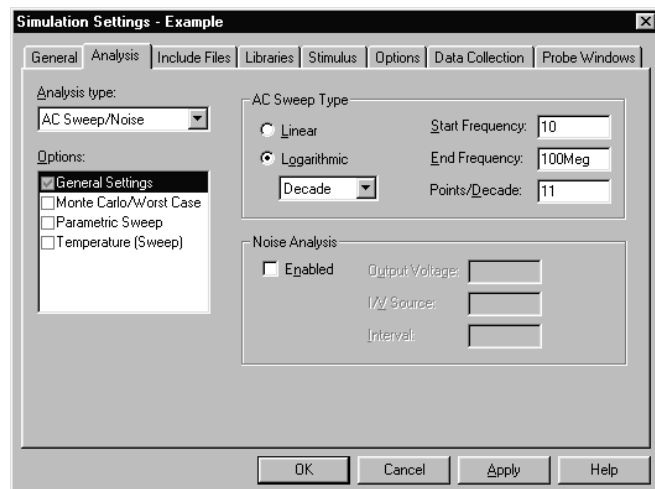

Figure 19 AC sweep and noise analysis simulation settings.
- 4 From the Analysis type list, select `AC Sweep/Noise` and enter the settings shown in Figure 19.